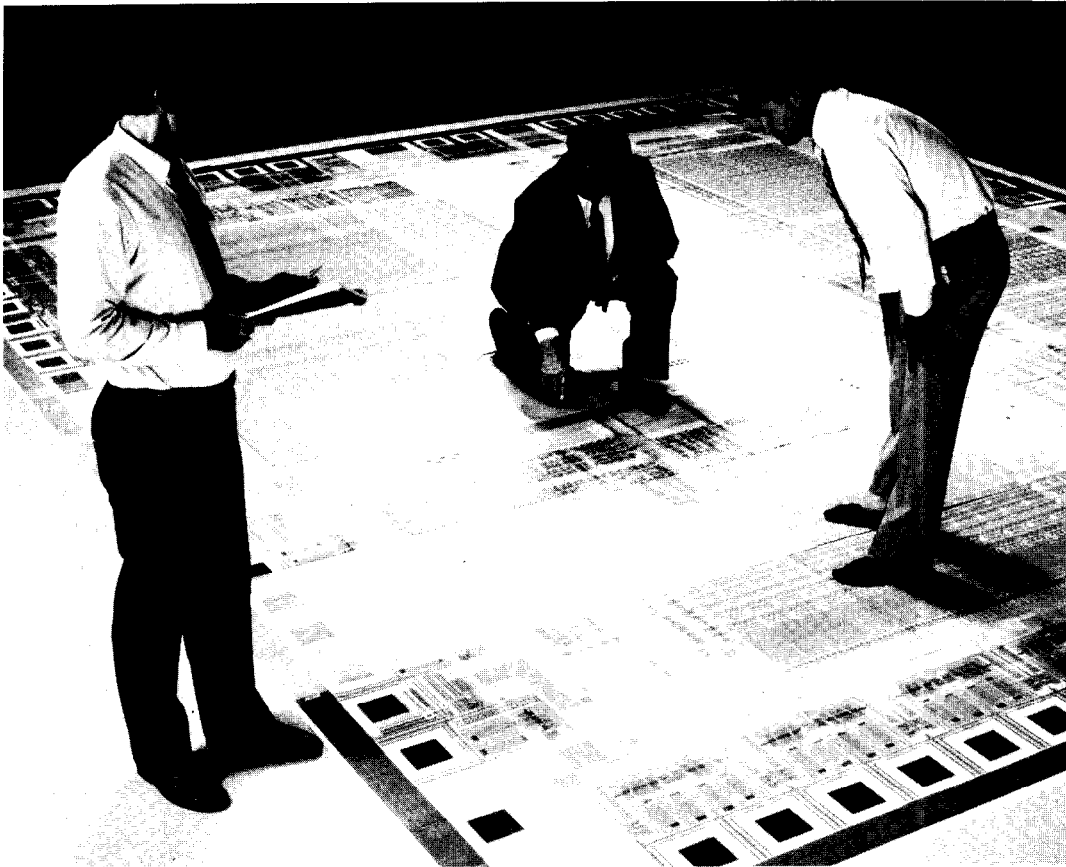

Figure 12.13. At the *chip*-design level, CAD/CAM isn't a luxury – it's a necessity. (Courtesy of Performance Semiconductor Corporation, Sunnyvale, California.)
□ *CAD-base ASIC.* We finish our CAD narrative by pointing out that you would not dream of designing custom or semicustom (gate-array) ICs by hand (Fig. 12.13). These belong in the general class of “application-specific integrated circuits,” or ASICs. Once again, CAD comes to the rescue, with capture and simulation software that gives you some assurance that your chip has a chance of working. ASICs are rational in the context of substantial production runs, and we confidently assume that the situation will only improve with time. By the time of the next revision of this book it may have become